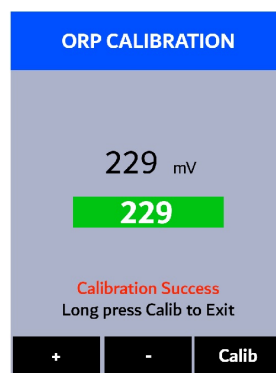

Figure 48.
7. Press **Calib** (). The message "**Calibration Success**" will appear on the display (Figure 48).